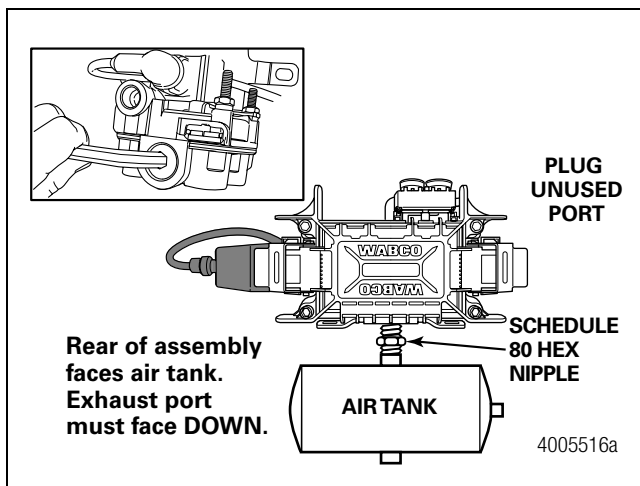

Figure 18
3. Rotate and tighten the ECU/modulator valve assembly until the exhaust port faces DOWN and the connection is secure. Use a torque wrench or ratchet with the extension at the 3/4-inch (19.05 mm) pipe plug installed on the front supply port. Figure 18.